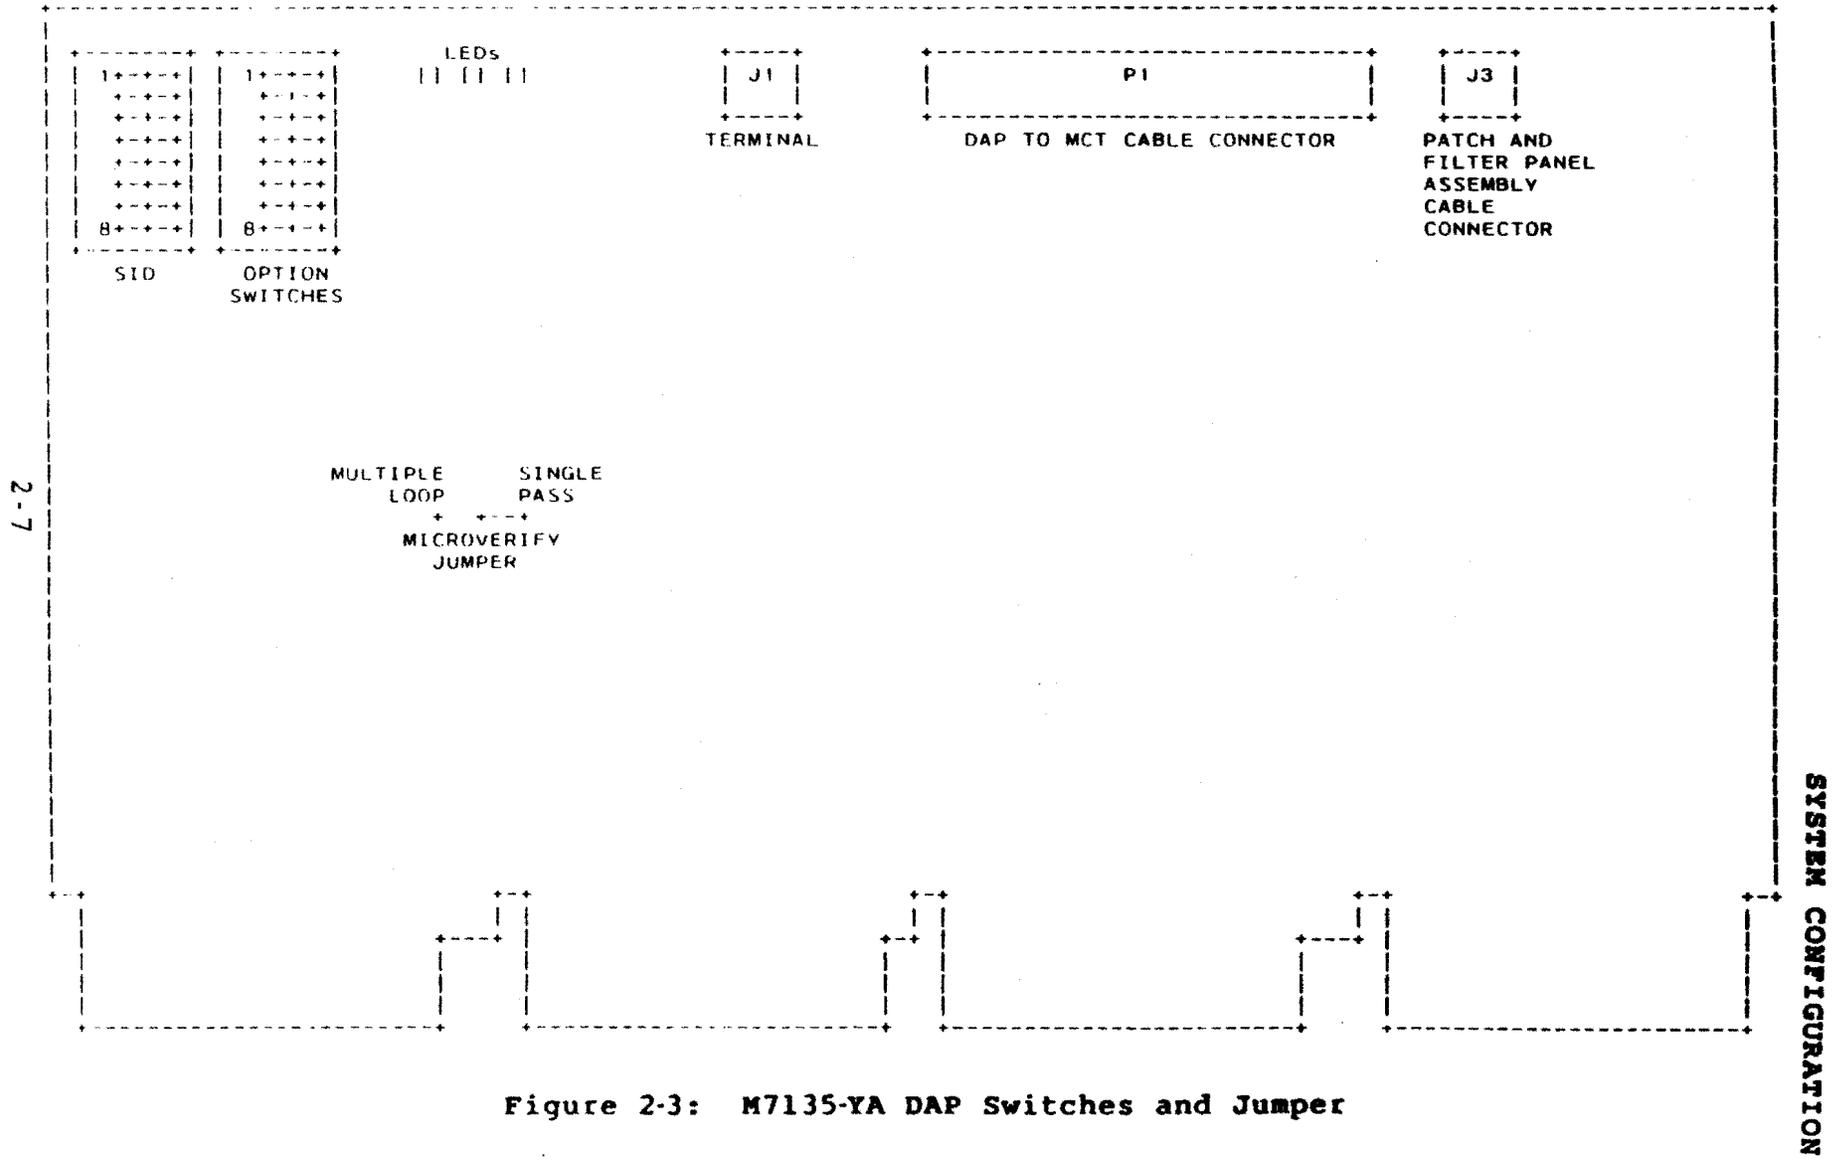

Figure 2-3: M7135-YA DAP Switches and Jumper
The DAP (data path) module (Part Number M7135-YA) contains the data path and the instruction decode and microsequencer logic. It decodes macroinstructions, controls microinstruction flow, and processes program interrupts. The DAP is connected to the MCT with a ribbon cable (see Figure 2-3).
**2.3.1.2 Microverify Jumper** - This jumper determines the test mode for Microverify (automatic power-up self-tests). The jumper is factory-set to single-pass mode (as shown in Figure 2-3). In this mode, Microverify runs one pass each time it is called; and reports either a pass, or a fail, if any part of the tests fail. In the alternate jumper position, multiple-loop mode, Microverify repeats all tests until halted, if no errors are detected. In order for multiple-loop mode to execute correctly, DAP Option Switch 2 (Table 2-2) must be in the OFF (VT100 compatible) position (also see the NOTE -- VT100 Mode, below). If any test fails, Microverify continues to loop on the failing test. Subsequent successful passes of the failing test will not stop Microverify from looping on the error; it must be halted by operator intervention.